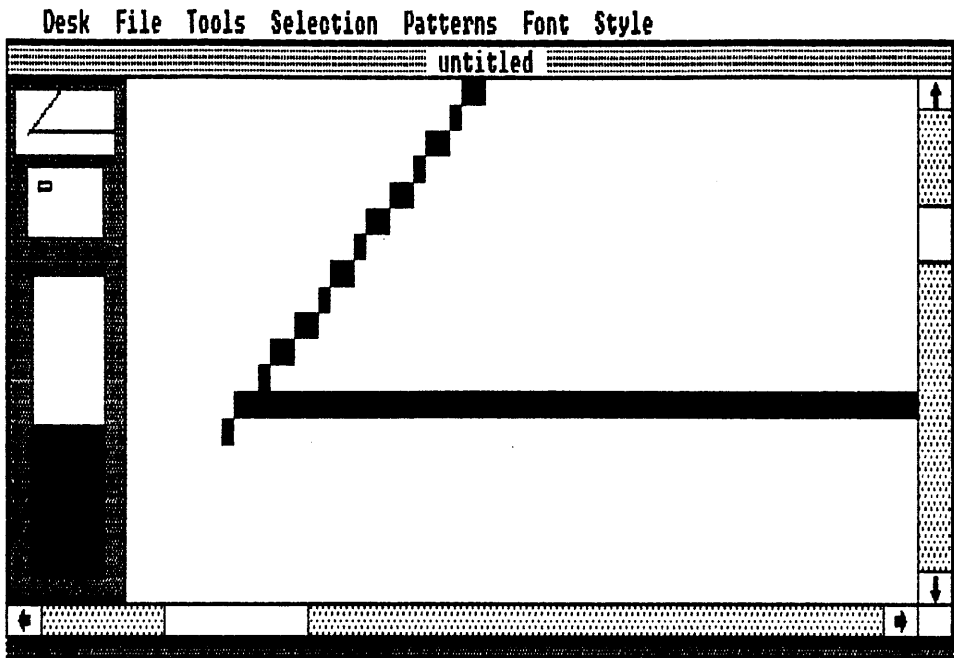

Fig. 3-13. Using the **Microscope** tool produces a special enlargement screen for working with individual pixels.
- The **Microscope** window has four parts (Fig. 3-13):